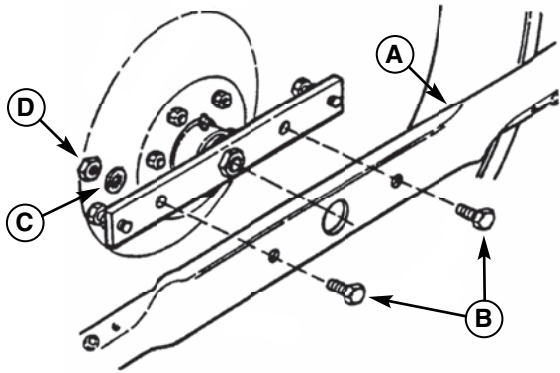

Figure 27. Blade Installation - 33" Deck
8. Reinstall the hardware as noted in Figures 27 through 29. Use a wooden block to prevent blade rotation while tightening the hardware to the following torque: